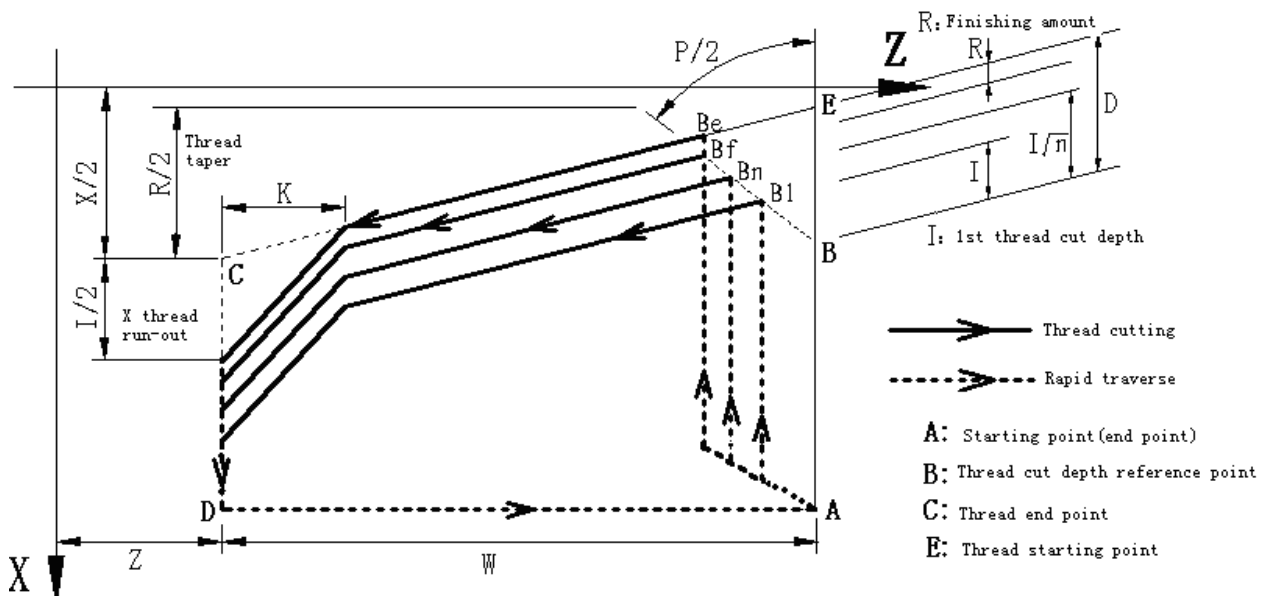

Fig. 4-47
Field definitions, data range are the same those of G92 as Fig. 4-47:
**Relative definitions:** (as Fig. 4-47)
1. Using G76 thread cycle cutting command group can complete the specified tooth height (total cut depth) of the thread cutting by multi thread roughing and finishing; when the thread angle defined by the command ① is not  $0^\circ$ , the cut-in point of thread roughing moves to the thread tooth bottom from the thread tool top and the angle between neighboring two teeth is the defined thread angle.
4. When the thread angle defined by G76 ① is not 0, X, Z move simultaneously, the thread axis reaches the cut-in point, and then the single-axis for non-thread axis moves to the cut-in point in G76 ② thread cycle from the starting point to the cut-in point; other cut path is the same that of G92 as Fig. 4-47.